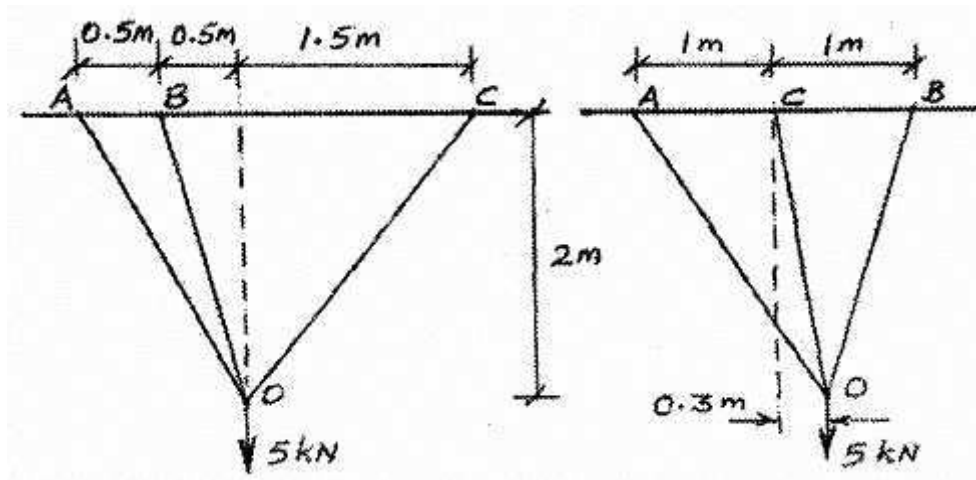

Figure 1:
3. Three flexible wires AO, BO and CO are attached at their upper ends to a rigid horizontal plane and are just tight in the positions shown in Figure 1, when no load is applied at O. Determine the tension in each wire when a load of 5kN is applied at O. Use the method of tension coefficients. [16]